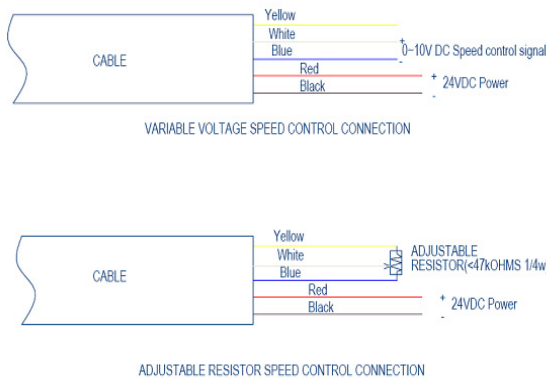

Figure 4 Adjustable Speed Control Connection
- ❑ Connect the white to the positive, and the blue to the negative (Figure 4).